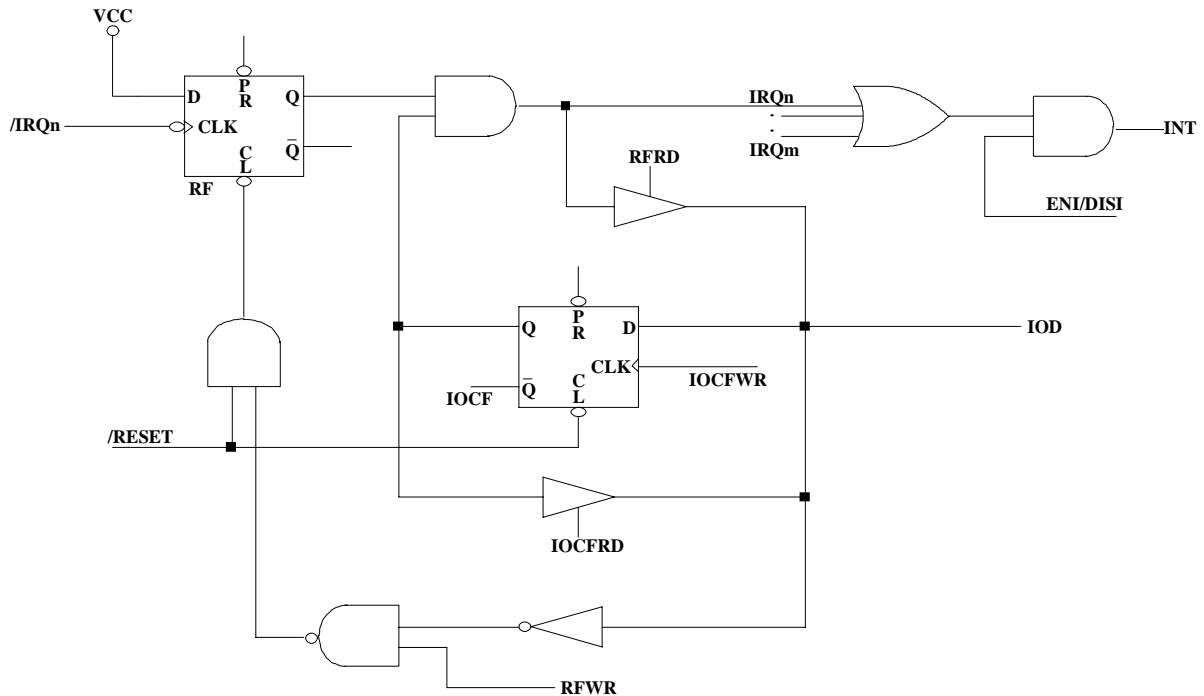

Fig. 11 Interrupt input
The flag (except ICIF bit) in the Interrupt Status Register (RF) is set regardless of the status of its mask bit or the execution of ENI. Note that the outcome of RF will be the logic AND of RF and IOCF (refer to Fig. 11). The RETI instruction ends the interrupt routine and enables the global interrupt (the execution of ENI).